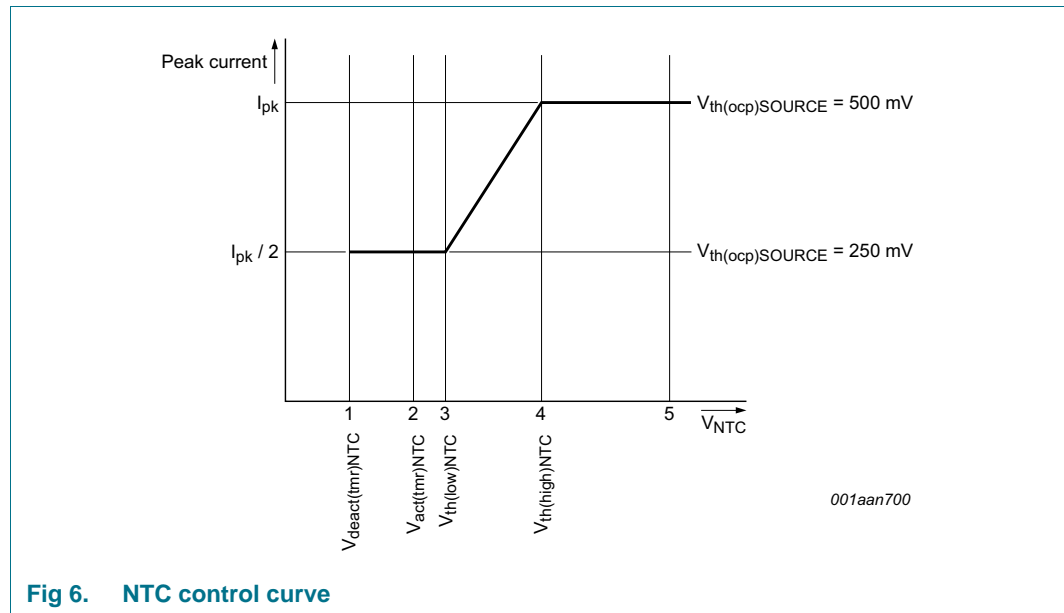

Fig 6. NTC control curve
The NTC pin can be used as a control method for LED thermal protection. Alternatively, the pin can be used as an input to disable/enable light output using a digital signal (PWM current regulation). The pin has an internal current source that generates the $I_{\text{offset(NTC)}}$ current. To monitor the LED temperature, an NTC resistor can be connected directly to the NTC pin. Depending on the resistance value and the corresponding voltage on the NTC pin, the converter reacts as shown in Figure 6.
When the voltage on the NTC pin exceeds $V_{\text{th(high)NTC}}$ (see Figure 6 (4)), the converter delivers nominal output current. When the voltage is lower than this level, the peak current is gradually reduced until $V_{\text{th(low)NTC}}$ is reached (see Figure 6 (3)). The peak current is now half the peak current of nominal operation. When $V_{\text{act(tmr)NTC}}$ is passed (see Figure 6 (2)), a timer starts to run to distinguish between the following situations:
- If the low-level $V_{\text{deact(tmr)NTC}}$ is not reached within time $t_{\text{to(deact)NTC}}$ (see Figure 6 (1)), LED overtemperature is detected. The IC stops switching and attempts to restart from the HV pin voltage. Restart takes place when the voltage on the NTC pin is higher than $V_{\text{th(low)NTC}}$ (see Figure 6 (4)). It is assumed that the reduction in peak current does not result in a lower NTC temperature and LED OTP is activated.
- If the low-level $V_{\text{deact(tmr)NTC}}$ is reached within the time $t_{\text{to(deact)NTC}}$ (see Figure 6 (1)), it is assumed that the pin is pulled down externally. The internal current source $I_{\text{offset(NTC)}}$ is switched off in this mode. The restart function is not triggered. Instead, the output current is reduced to zero. PWM current regulation can be implemented this way. The output current rises again when the voltage applied on the NTC pin is higher than $V_{\text{th(low)NTC}}$.